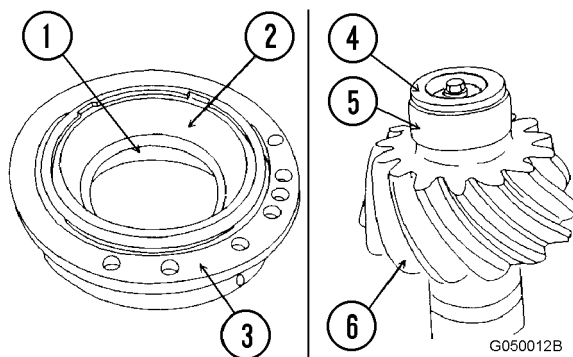

FIGURE 5-9. PINION GEAR AND RACES
2. Remove spacer (5), then remove inner bearing (4).
3. Remove holder (4, Figure 5-9), then remove center bearing inner race (5) from pinion gear (6).
4. Remove bearing outer races (2) and (1) from carrier (3).